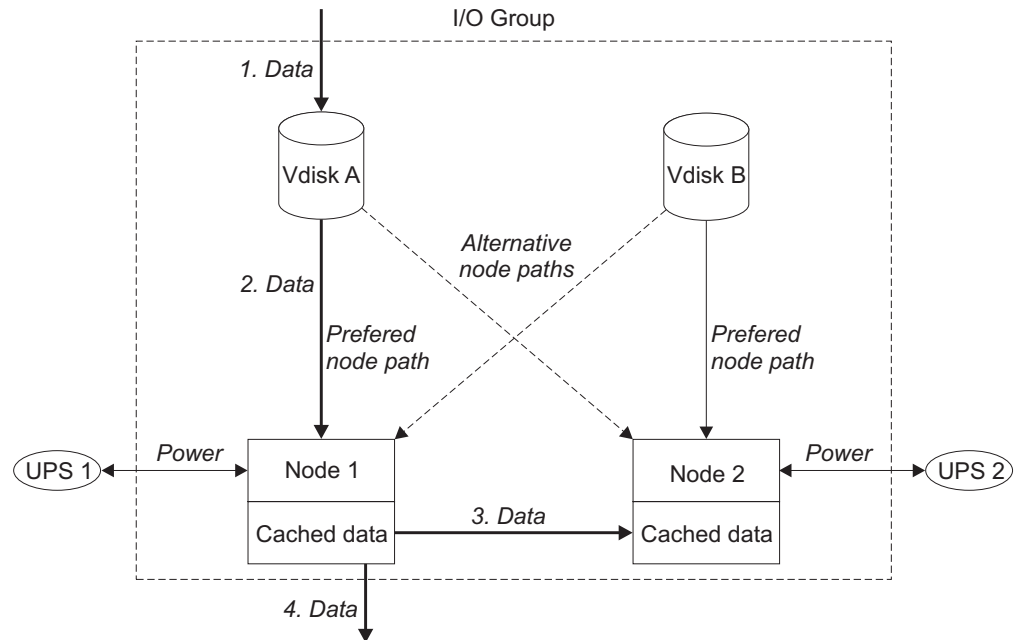

Figure 6. I/O group and UPS
Figure 6 shows a write operation from a host (1), that is targeted for VDisk A. This write is targeted at the preferred node, Node 1 (2). The write is cached and a copy of the data is made in the partner node, Node 2's cache (3). The host views the write as complete. At some later time, the data is written, or de-staged, to storage (4). Figure 6 also shows two UPS units correctly configured so that each node is in a different power domain.